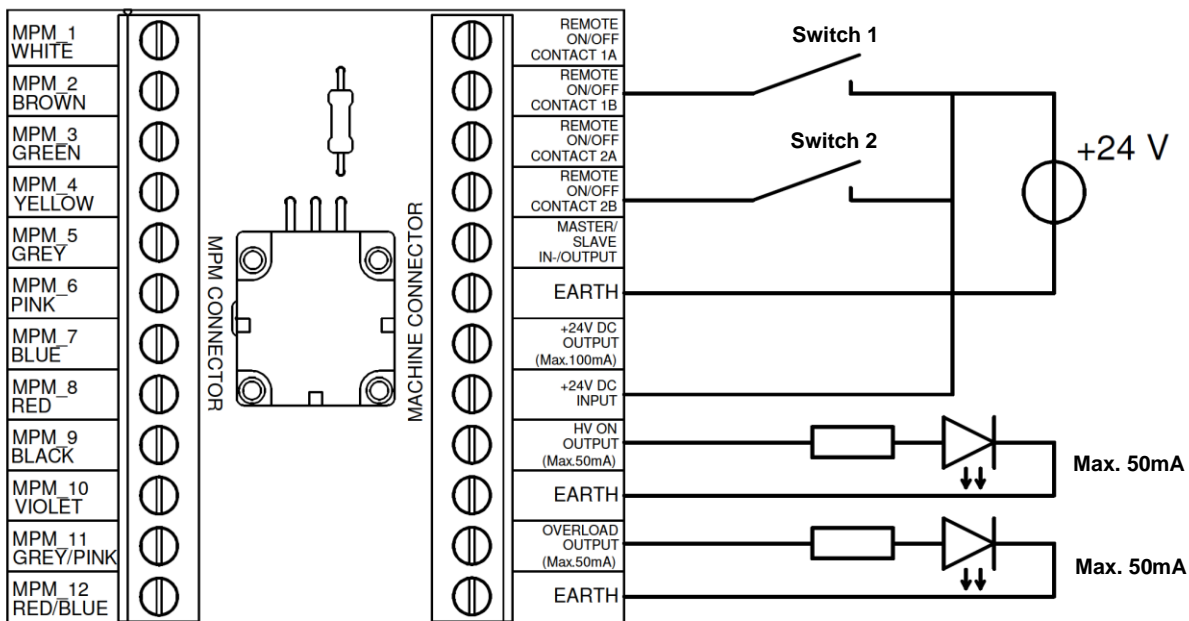

Figure 6, wiring diagram External Balance Control Kit with external 24 V power supply
- For use with an external 24 V DC power supply: Connect the Balance Control Kit as shown in figure 6.